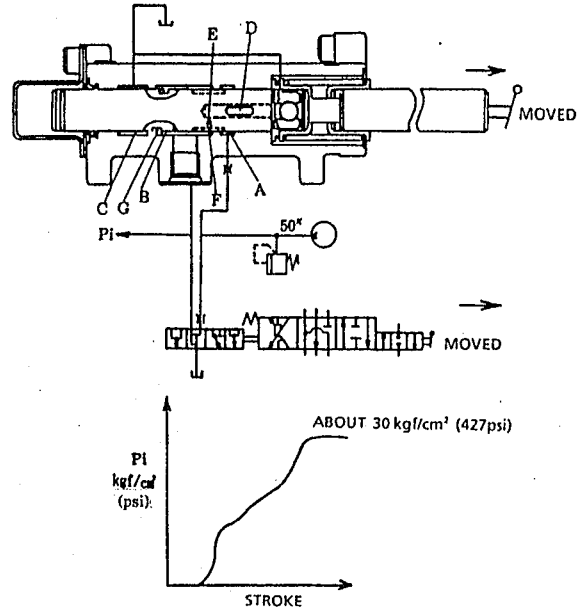

Fig. 14 When spools of both converters are moved
- 3) When both spools are moved (See Fig. 14)
In this case, the flow of oil in each converter is the same as when the spool of either converter is moved. The flow characteristics are shown in Fig.14.